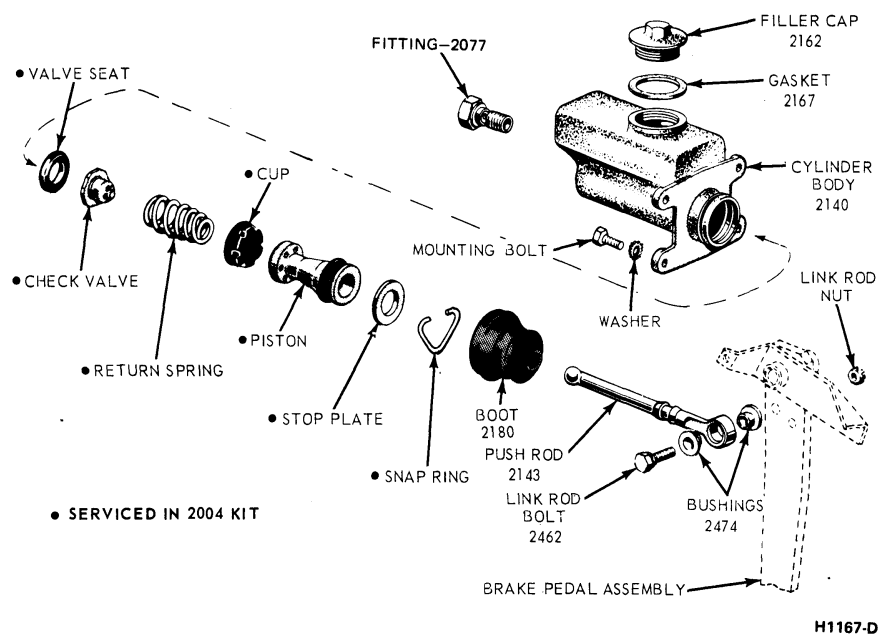

FIG. 24 L-, LN-, or LT-Series Brake Master Cylinder Reservoir
2. On a L-, LN-, P-, or LT-Series truck master cylinder with a box-shaped reservoir, remove the brake bolt, fitting, and gaskets from the forward end of the cylinder (Fig. 24). Discard the gaskets. Remove the snap ring from the bore at the rear end of the cylinder, and remove the stop plate, piston cup, spring, check valve, and seat from the cylinder bore. If necessary, blow through the forward bolt hole to remove the parts.
2. On a L-, LN-, P-, LT-Series truck with a box-shaped master cylinder reservoir, install the brake fitting, bolt, and new gaskets (Fig. 24) on the forward end of the cylinder. Install the valve seat, valve, spring, cup, piston, and stop plate in the cylinder bore. Install the snap ring in the rear end of the bore.